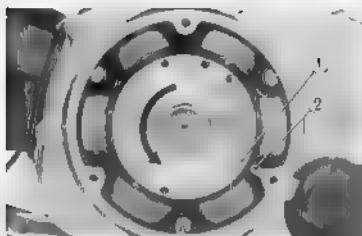

Fig. 5.2 Aligning to the
- a. Remove the left crankcase cover and align the timing mark "T" ① on the flywheel with the alignment mark ② on the stator (Fig. 5.2)